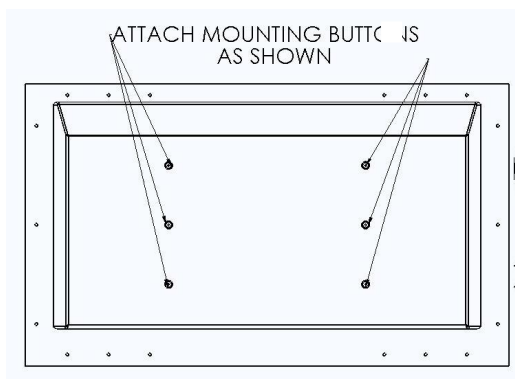

Figure 2
1. Attach mounting buttons to plasma using six M8 x 25 cap screws provided (see Figure 2).